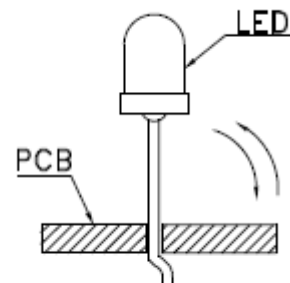

Fig. 8
5. Do not bend the leads more than twice (Fig.8).